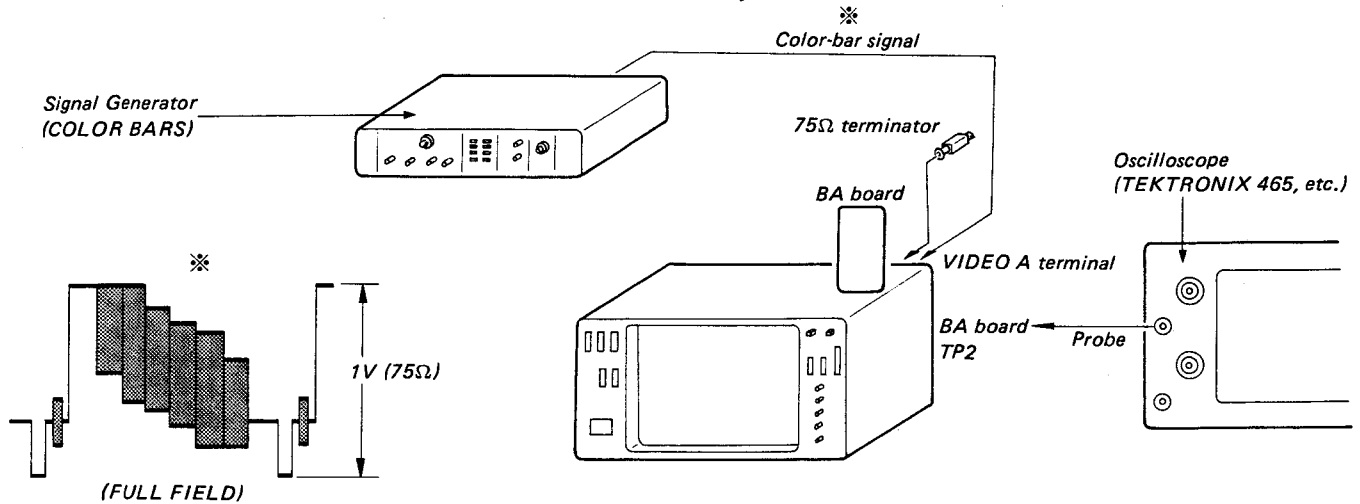

Fig. 5-83.
1. Complete the connections as shown in Fig. 5-83.